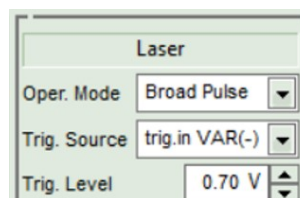

Fig. 16: Additional control elements for external triggering in both narrow and broad pulsed mode
- The option **trig.in VAR(-)** will trigger upon the falling edge of an electrical pulse, while **trig.in VAR(+)** does the same on the rising edge of such a signal. Both of these options will also spawn an additional spin edit box called **Trig. Level**, where the threshold of the trigger signal can be set in V between -1 V to +1 V (see Fig. 16)
- **Contin. Wave:** By choosing this option, the Unico will generate laser light as a continuous wave (CW).